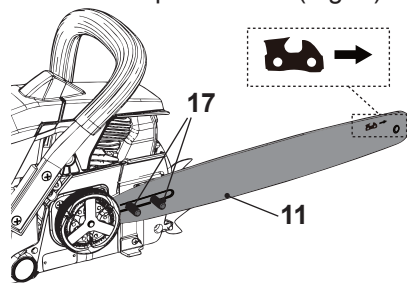

Fig. 2
3. Place the slot of the guide bar (11) over the bolts (17). Ensure to fit the guide bar (11) with the saw chain ‘cutter’ symbol at the top of the bar (Fig. 2).